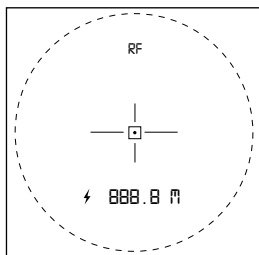

Fig. 3. Display indication after switching on the device.
5. Look through the eyepiece (Fig. 1, 1). The OLED display (Fig. 3) appears.